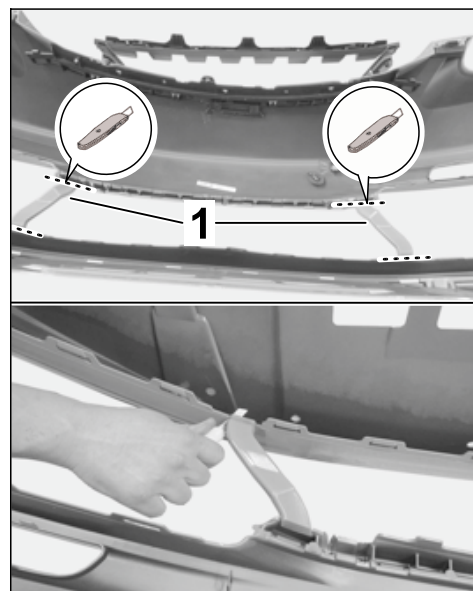

Figure 18
- 5.2 Cut off stability bars $\Rightarrow$ *Figure 18 -1-* for the paintwork using a suitable tool.